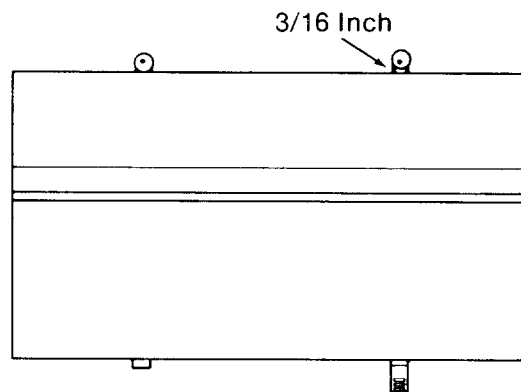

Fig. 60
6. Loosen the nuts under the *circular clamps* using a 7/16 inch wrench or socket. (Figure 60)
7. Turn each *clamp* until there is a 3/16 inch space between the *clamp* and the *rear table*. Make sure that the *rear table*, *fence* and *spacer* are firmly against the front table. (Figure 60)